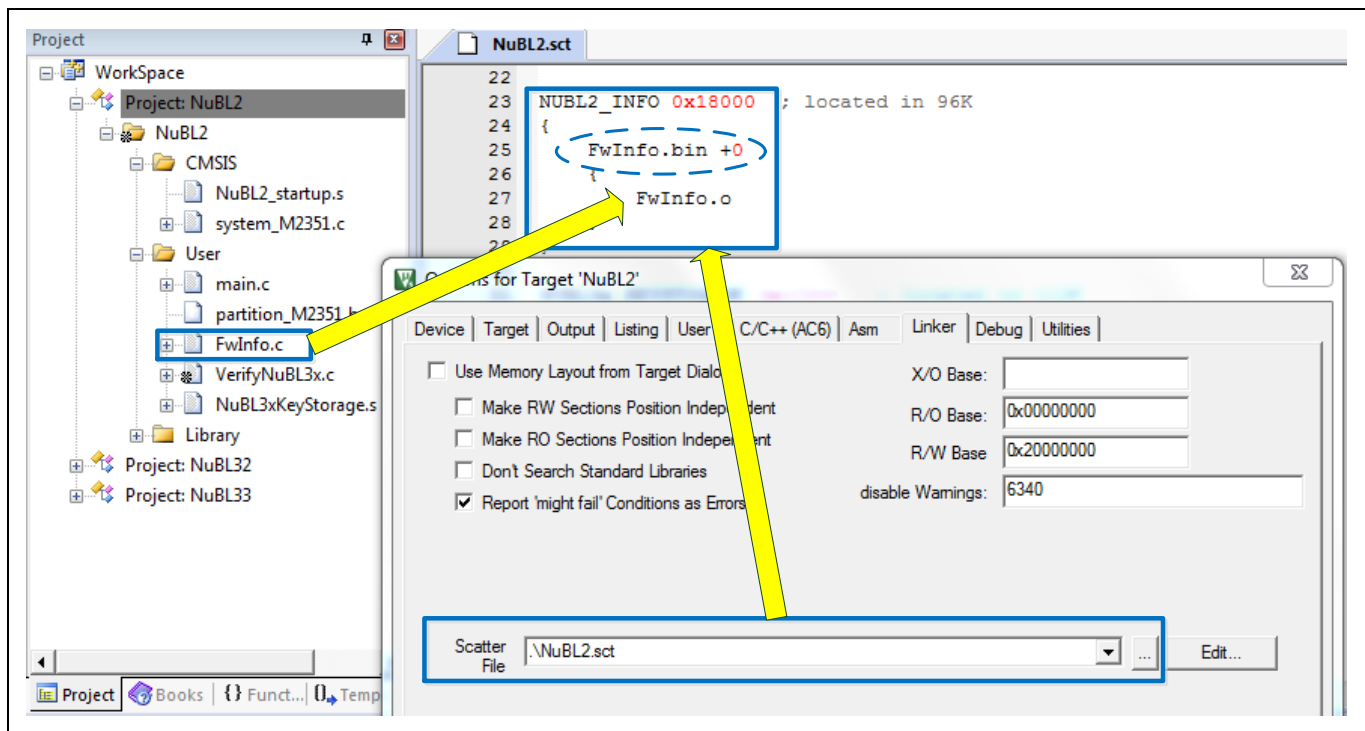

Figure 5-9 Configure NuBL2 Firmware Information
2. Add a scatter file to configure the NuBL2 firmware information output file and its address as shown in Figure 5-9.